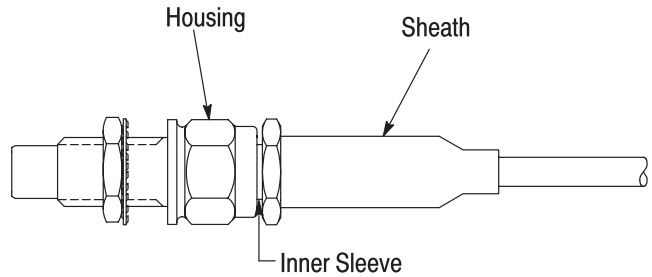

Figure 6
15. Position the outer sheath over the outer sleeve as shown in Figure 6.